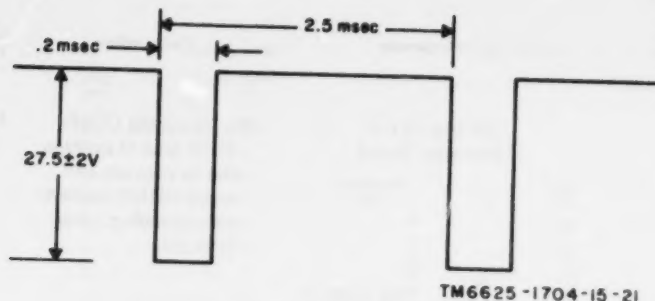

Figure 8-1. Waveform output at pin F of TJ4.
m. Insert extender cord and jumpered through a 2.2K-ohm $\frac{1}{4}$ -watt resistor from pin D of TJ4 to pin F of TJ4. Turn AC and DC POWER switches ON and observe waveform as shown in figure 8-1 at pin F of TJ4. Remove jumper.